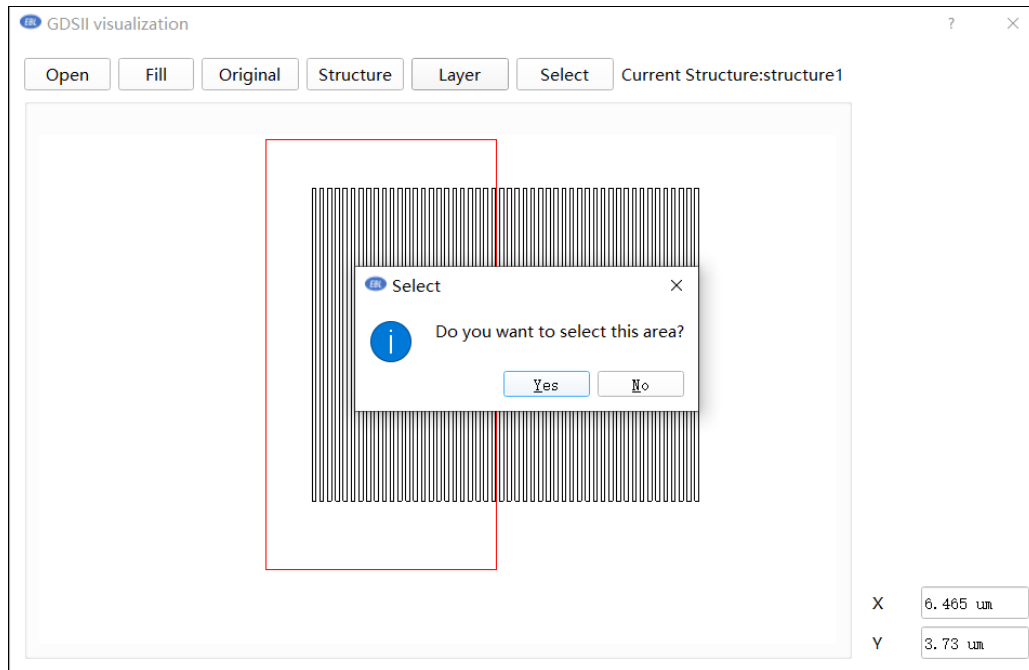

Figure 3.8.2 Show frame selection dialog
- 2) The left mouse button is used to frame selection (You need to press and hold the left button to plan the path and release the mouse to form a frame selection area.). After the selection is completed, a dialog box will pop up to determine whether to frame the area (Figure 3.8.2).